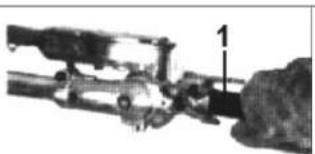

Fig.HT5
1. With your right hand, grasp the handle, located immediately aft of the hand guard. With your left hand, grip the adjustment lever on the cutter assembly. See Fig.HT5